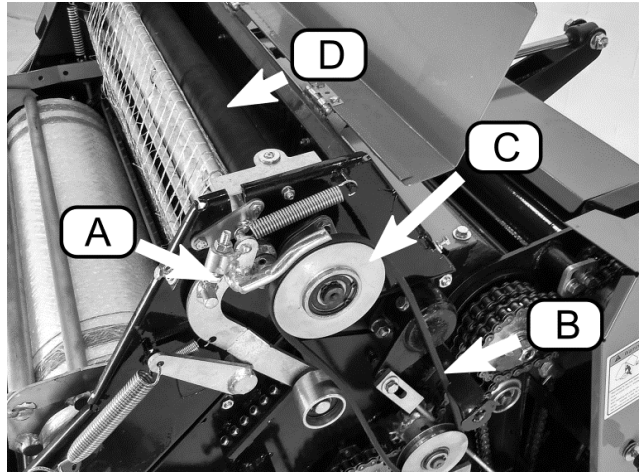

Figure 12 Top left side of baler
When beginning the bale wrapping process, the brake (Figure 12, A) is released from the belt (B), and the pulley (C) turns the roller (D) that advances the net. More detail on the wrapping process is found in Section 4.2.2, Baling.